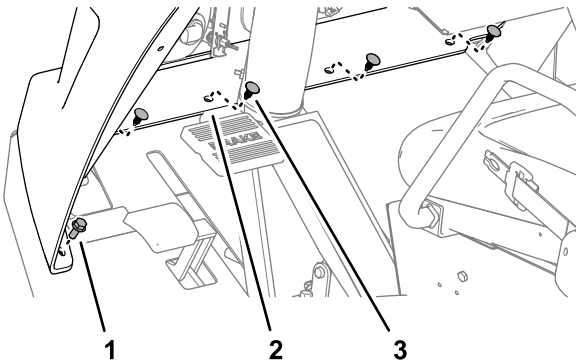

Figure 5
3. Remove the 4 push-in fasteners that secure the bottom flange of the hood to the machine (Figure 5).
4. Remove the 2 flange-head bolts (5/16 x 3/4 inch) that secure the bottom flange to the machine (Figure 5).